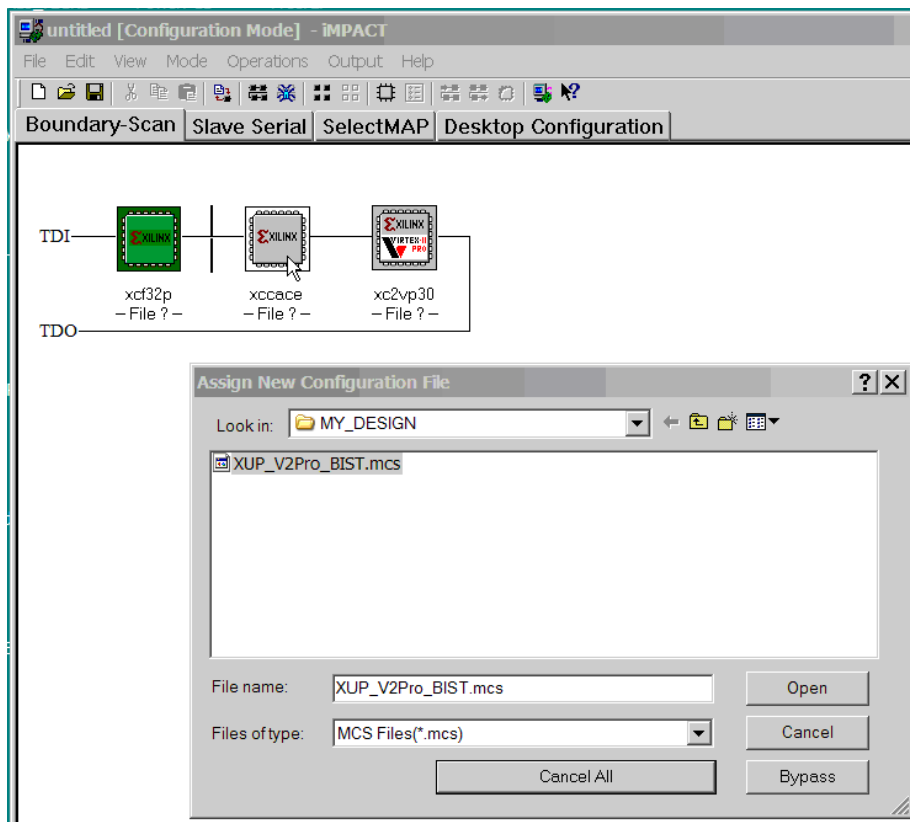

Figure C-4: Assigning New PROM Configuration File
- Navigate to the directory where you saved the XUP_V2Pro_BIST.mcs file. Select this file as the Configuration file for the XCF32P PROM, the first device in the JTAG chain identified by iMPACT as shown in Figure C-4. Click on the Open button.